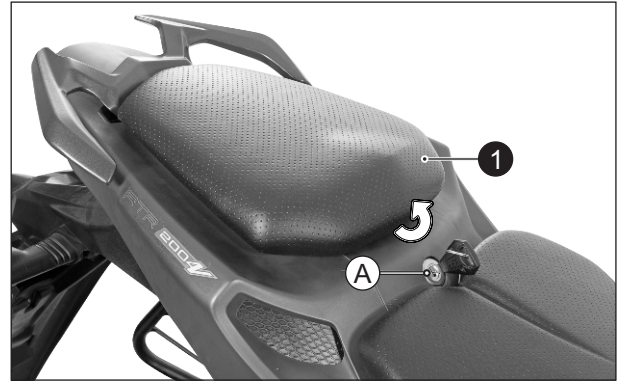

Fig. 6.150
- Insert the ignition key into the seat lock (A).
- Turn it in clockwise, then pull and release the front section of the seat (1) first, followed by the rear section as shown in the figure. (Fig. 6.150)